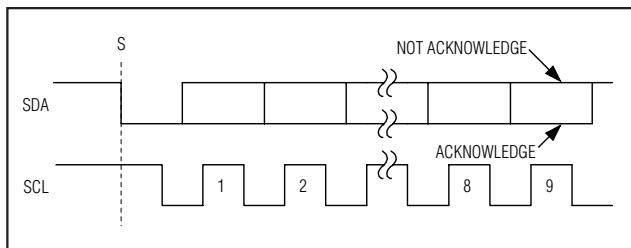

Figure 6. Acknowledge Bits
Data transfers are acknowledged with an acknowledge bit (A) or a not-acknowledge bit ($\bar{A}$). Both the master and the MAX1136–MAX1139 (slave) generate acknowledge bits. To generate an acknowledge, the receiving device must pull SDA low before the rising edge of the acknowledge-related clock pulse (ninth pulse) and keep it low during the high period of the clock pulse (Figure 6). To generate a not-acknowledge, the receiver allows SDA to be pulled high before the rising edge of the acknowledge-related clock pulse and leaves SDA high during the high period of the clock pulse. Monitoring the acknowledge bits allows for detection of unsuccessful data transfers. An unsuccessful data transfer happens if a receiving device is busy or if a system fault has occurred. In the event of an unsuccessful data transfer the bus master should attempt communication at a later time.